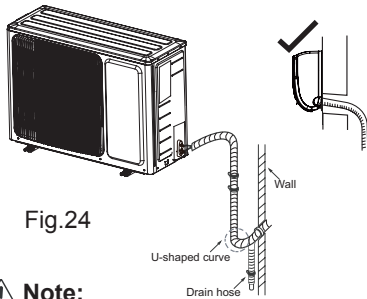

Fig.24
- (1) The pipes should be placed along the wall, bent reasonably and hidden possibly. Min. semidiameter of bending the pipe is 3 15/16 inch.
- (2) If the outdoor unit is higher than the wall hole, you must set a U-shaped curve in the pipe before pipe goes into the room, in order to prevent rain from getting into the room.(As show in Fig.24)